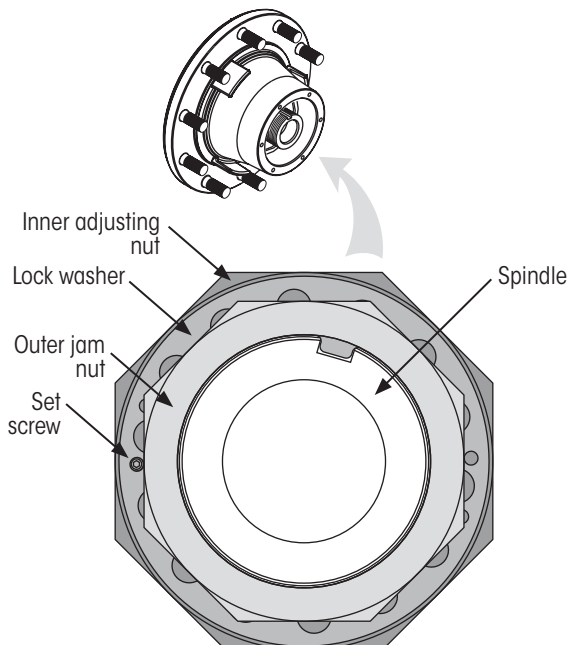

Figure 10: 3-piece nut system components
11. Refer to Figure 10 on page 11 and check to ensure:
- C. Outer jam nut and retaining set screw are securely in place (Figure 10 on page 11).
4. Using a  $\frac{5}{64}$  inch hex key, **remove** set screw from interlock washer (Figure 1 on page 5 and Figure 10 on page 11).
The HLS® hub system uses a 3-piece spindle nut system (Figure 10).
- i. **Remove** outer jam nut (Figure 10).
10. **Install** set screw (Figure 1 on page 5) into an accessible threaded hole in lock washer (Figure 10). Set screw must contact inner adjusting nut. Tighten to 18±2 in. lbs. (2.0±0.2 Nm) of torque.
1. **Ensure** lock washer is properly positioned and flush with inner adjusting nut at dowel pin (Figure 10 and Figure 12).